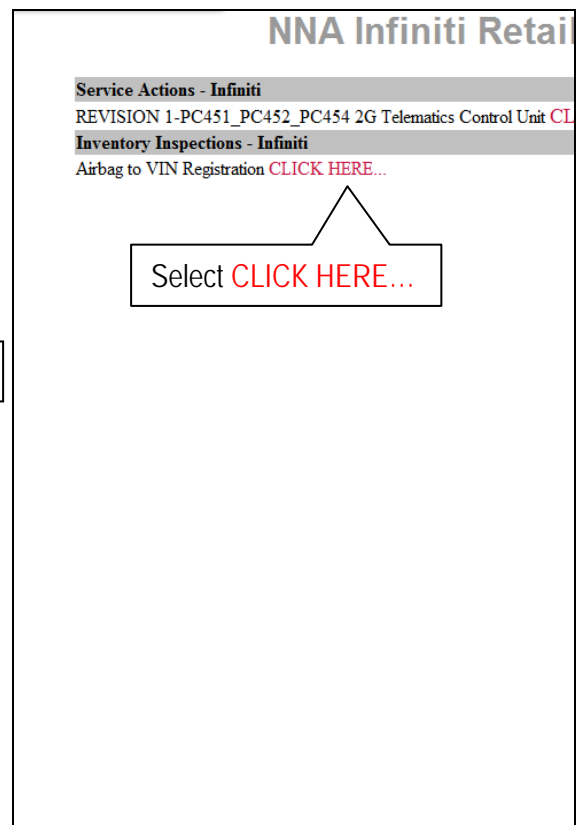

Figure 9
6. Select **CLICK HERE...** next to "Airbag to VIN Registration" (Figure 9).